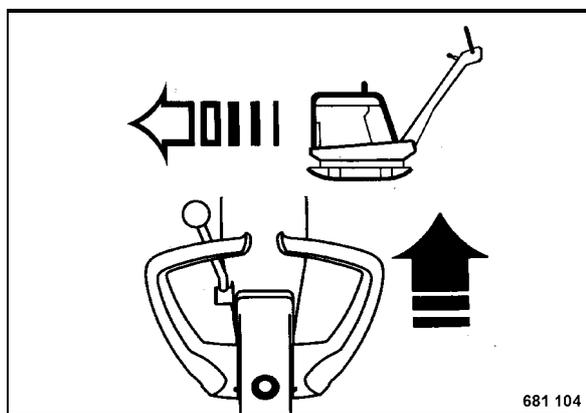

Fig. 42
- Move the travel lever (Fig. 42) forward as required for the desired speed.